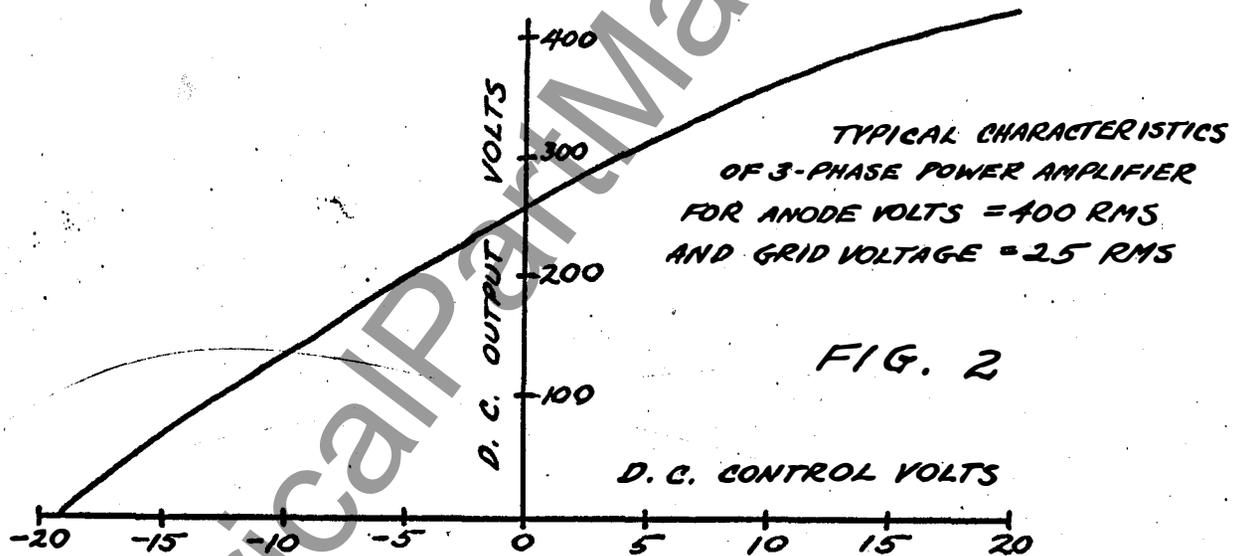

FIG. 2
- C. Measure DC control voltage and check for approximate controlling magnitude with characteristic curve of Fig. 2.